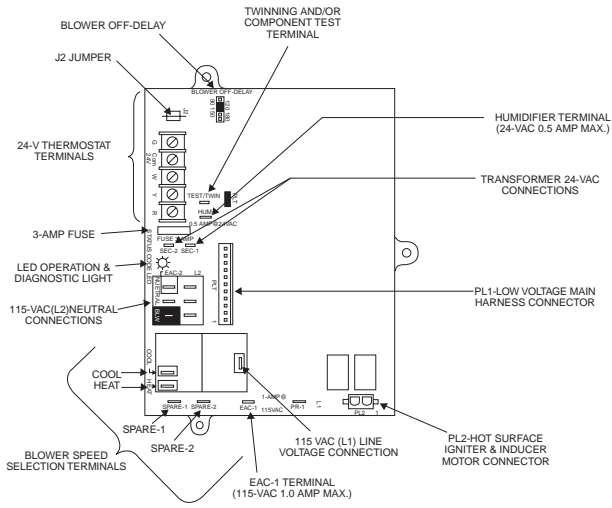
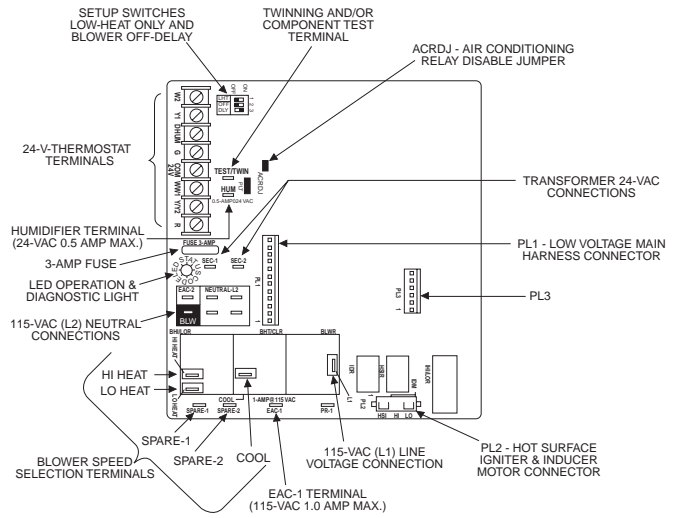

Fig. 8A—Standard Single Stage Control
Fig. 8C—Two Stage Control
Turn LHT switch on furnace control to ON (See Fig. 8C.)
4. Jumper R-W thermostat connections on the Single Stage furnace control (See Fig. 8A or 8B.) or Jumper R-W/W1 and R-W2 thermostat connections on the 2-Stage and Variable Speed furnace control (See Fig. 8C or 8D.) The two-stage algorithm must be removed to force furnace to high heat operation.
1. Jumper R and W thermostat connections to call for heat. (See Fig. 8A or 8B.)
1. Make sure LHT switch on furnace control to ON. (See Fig. 8C.)
- b. Jumper R, W/W1 thermostat connections on control. (See Fig. 8C or 8D.) Adjust low-heat input rate manifold pressure for propane gas. (See kit rating plate 327697-204 Rev. B, Fig. 10.) (Note: Gas valve should already have been pre-adjusted, from prior steps for two-stage gas valve). Turn low-heat adjusting screw counterclockwise (out) to decrease input rate or clockwise (in) to increase input rate.